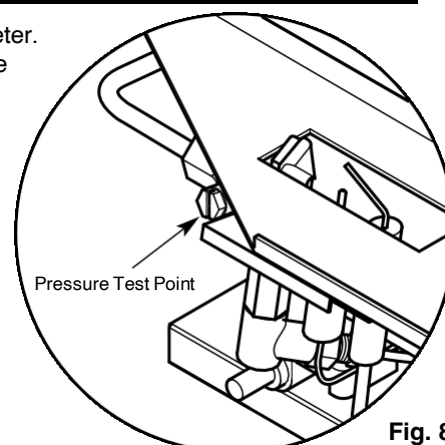

Fig. 8
1. Unscrew the pressure test point sealing screw (Fig. 8) and fit a manometer. Consult the user instructions (page 15). Ignite the appliance and turn to the high position.